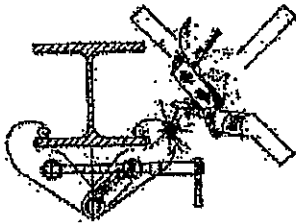

Fig.1
- Do not perform welding on the clamp. (Fig.1)